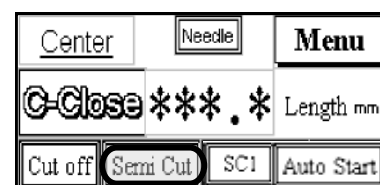

Figure 27
9.2 KNIFE ACTIVATION. (See Figure 27)